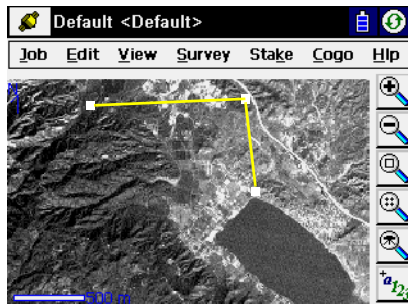

Figure 4-8. Background Image (on Main Map)
- **OK:** opens the selected file (Figure 4-8 on page 4-7). If no world file exists for the background image file selected, a warning displays, and the Background Images screen will appear again to select another file.